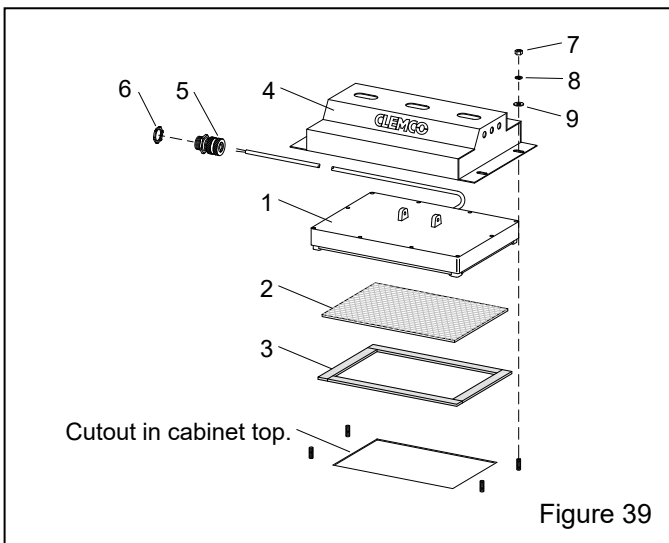

Figure 39
**9.6 LED Light Assembly – Figure 39**